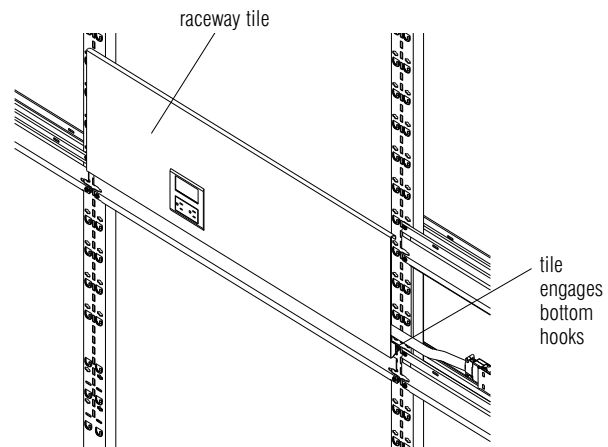

Figure 71
3. Apply firm consistent pressure to the lower corners of the raceway tile until the tile snaps into place. **Figure 71.** The lower hooks on raceway tiles are engaged by a snapping action.